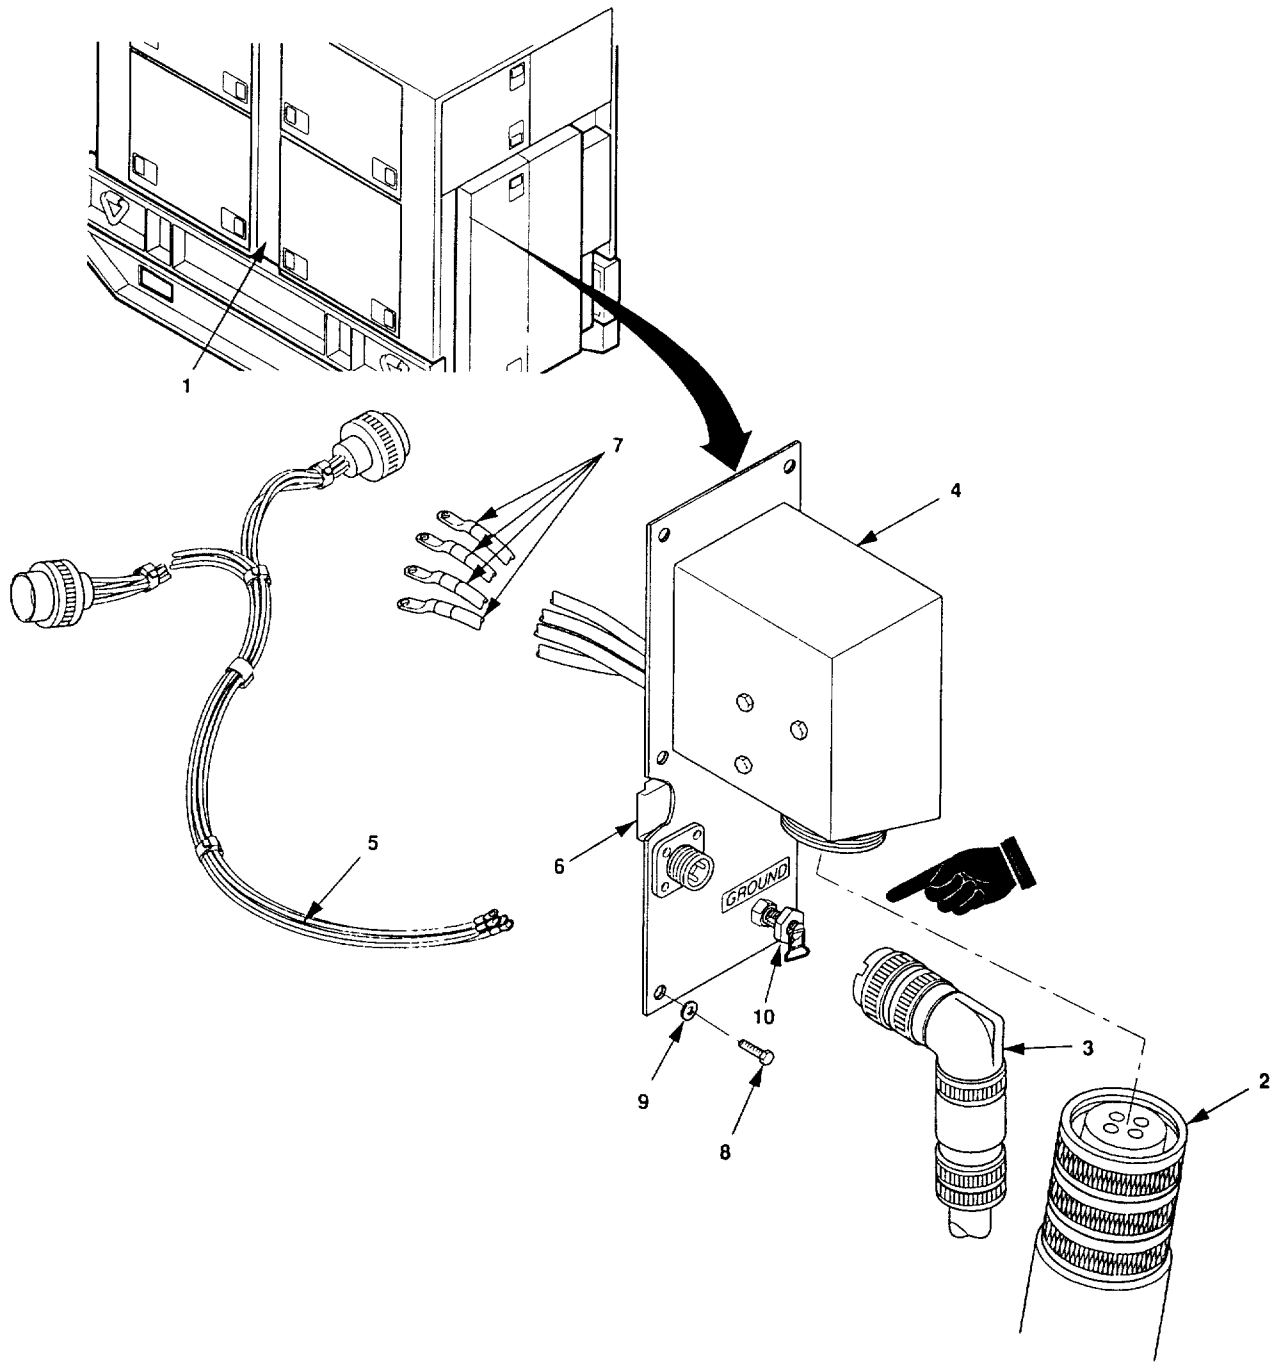

Figure 4-4. Adapter Plate Assembly Replacement.
4-18. Adapter Plate Assembly Replacement. (See figure 4-4).**a. Removal.**
- (1) Open side panels on generator set (1, figure 4-4).
- (2) Unplug P3 power/control cable (2) and P4, P7 low fuel cable (3) from adapter plate assembly (4).